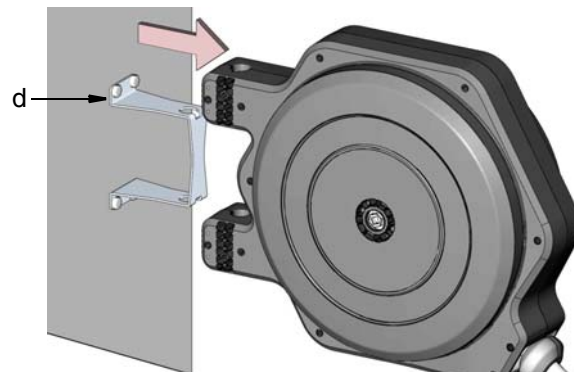

FIG. 9
6. Remove hose reel from mounting bracket (d) (FIG. 9) and lay hose reel on a work bench or flat work surface.